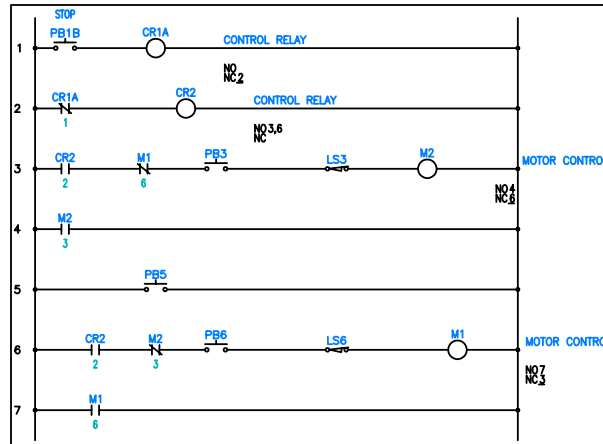

Figure 6-51 M2 moved to a different location
3. Enter **13,13** at the Command prompt and press ENTER; M2 is moved to a new location in rung 6, as shown in Figure 6-51.